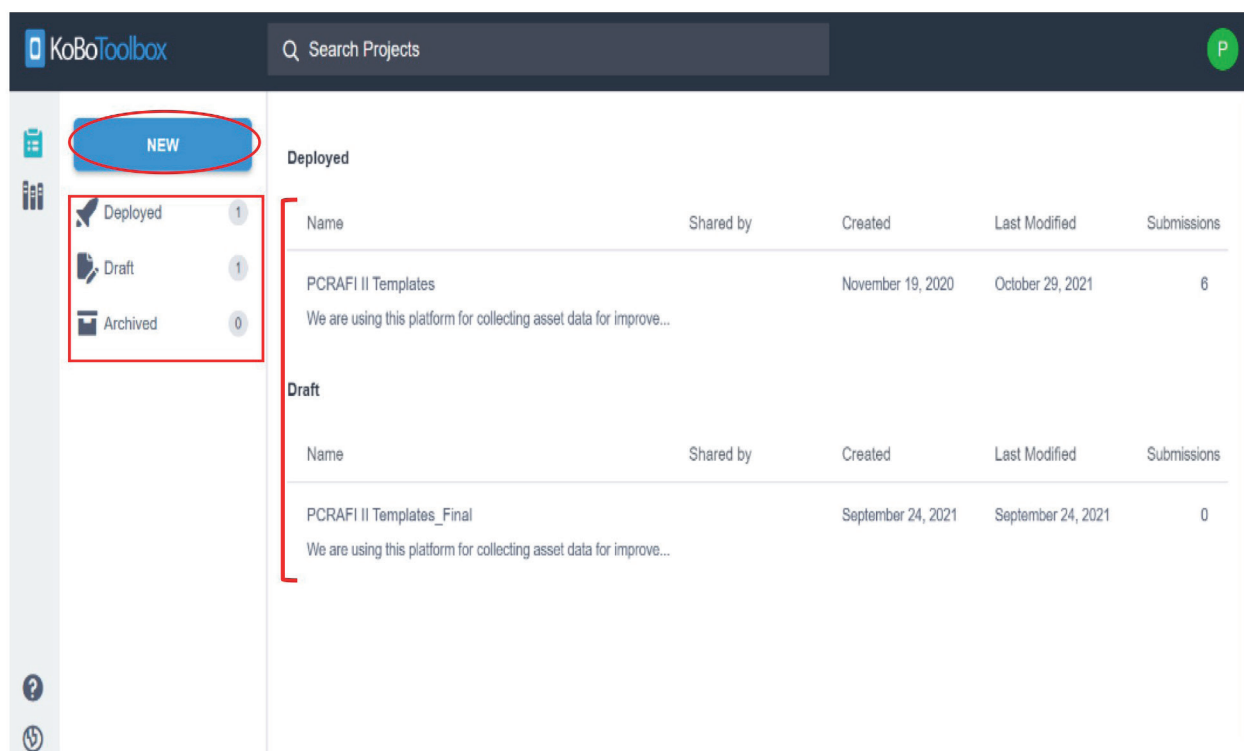

Figure 8: KoBoToolbox project tabs
1. Click on the “Project” tab to access/view projects under the user account. There are four main tabs that appear on the left corner. These are (Figure 8):
2. As seen in Figure 8, the right-hand side gives a brief description of the projects that have been deployed and those that are still in its draft stage (yet to be deployed).